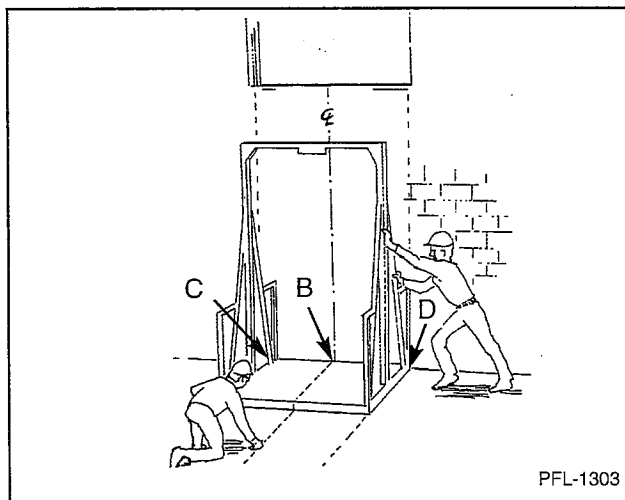

Figure 6
8. Align rear of the carriage with line C, B, and D. See Figure 6. See GA drawing for orientation of carriage.